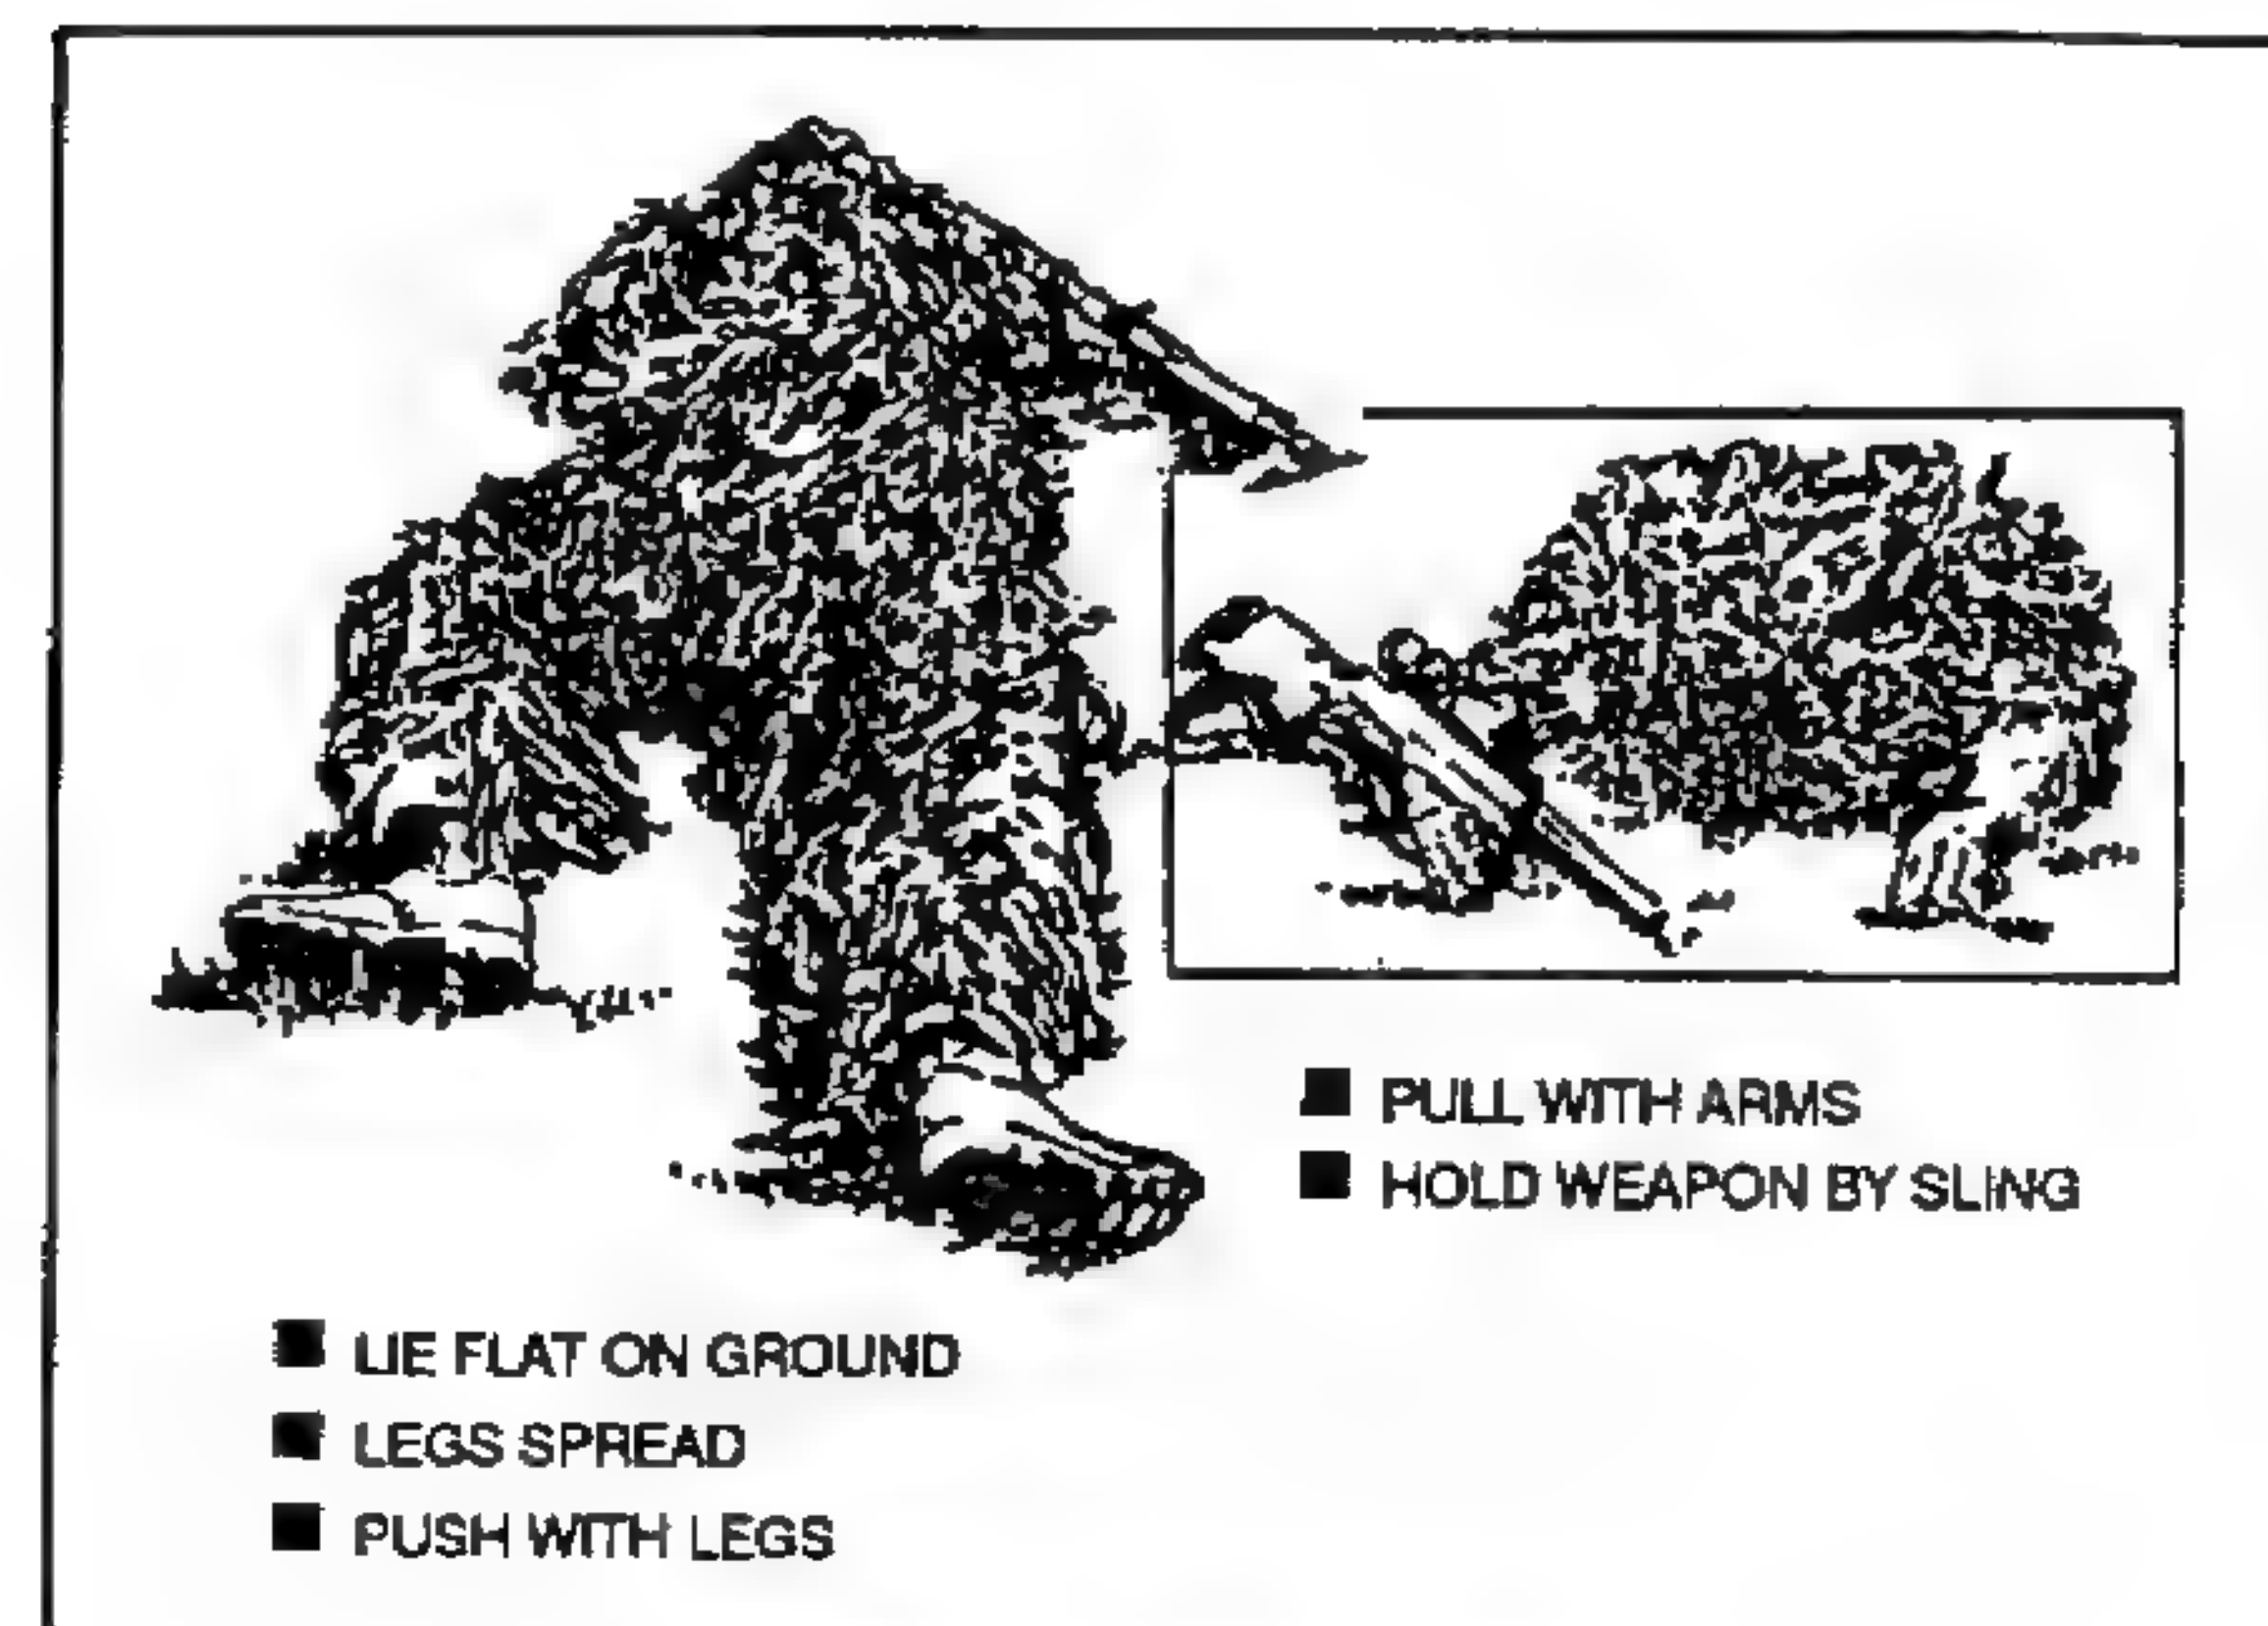

Figure 4-4. Medium crawl.
b. **Medium Crawl.** The medium crawl (Figure 4-4) is used when concealment is limited and the team needs to move faster than the sniper low crawl allows. The medium crawl is similar to the infantryman's low crawl.